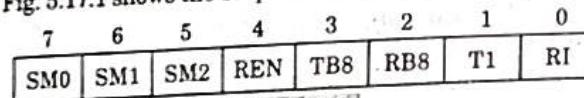

Fig. 5.17.1.
2. The Fig. 5.17.1 shows the bit patterns for SCON.